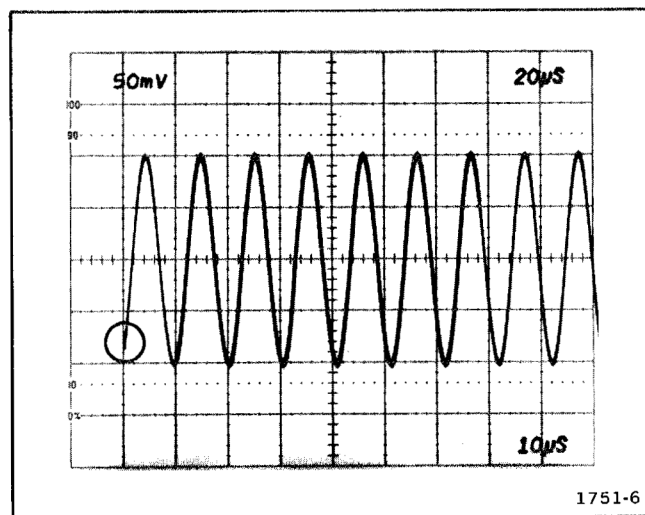

Fig. 5-10. Trigger sensitivity. (Circle denotes correct trigger point.)
a. Adjust—Trig Sens, R125, for a sweep trigger point at approximately 0.5 division from bottom of waveform as MAIN TRIGGERING LEVEL control is rotated through negative (-) portion of its range. See Fig. 5-10 for reference.
a. Adjust—Trig Sens, R325, for a Delayed sweep trigger point at approximately 0.5 division from bottom of waveform as Delayed Triggering LEVEL control is rotated through negative (–) portion of its range. See Fig. 5-10 for reference.